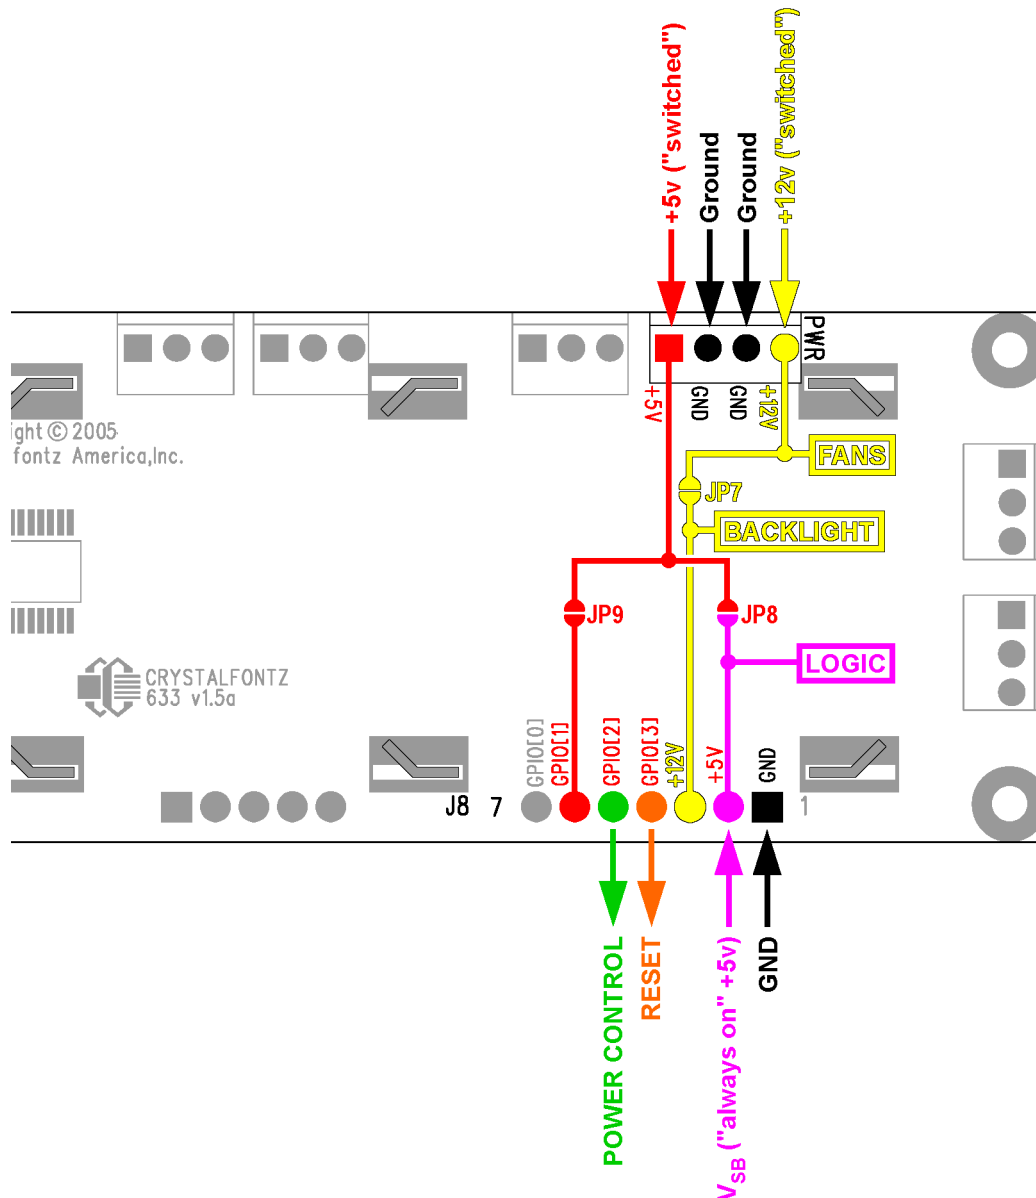

Figure 5. CFA633-TMC-KS ATX power supply and control connections
*JP7 must be opened for the operating range of +12v fans to be different from +12v backlights (listed in this table). If JP7 is closed (which is the factory default), then the voltage specification range for backlights must be observed for both backlights AND fans. Please see <a href="#">Figure 5. on Pg. 19.</a>